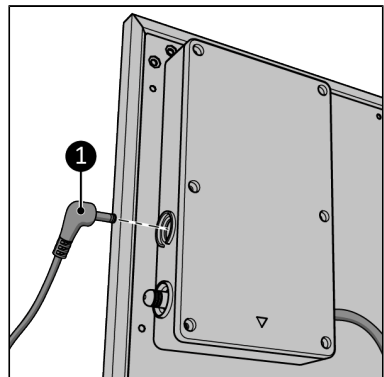

Figure 41.
2. Connect the external temperature sensor connector (Figure 41, pos. 1) to the sensor plug.